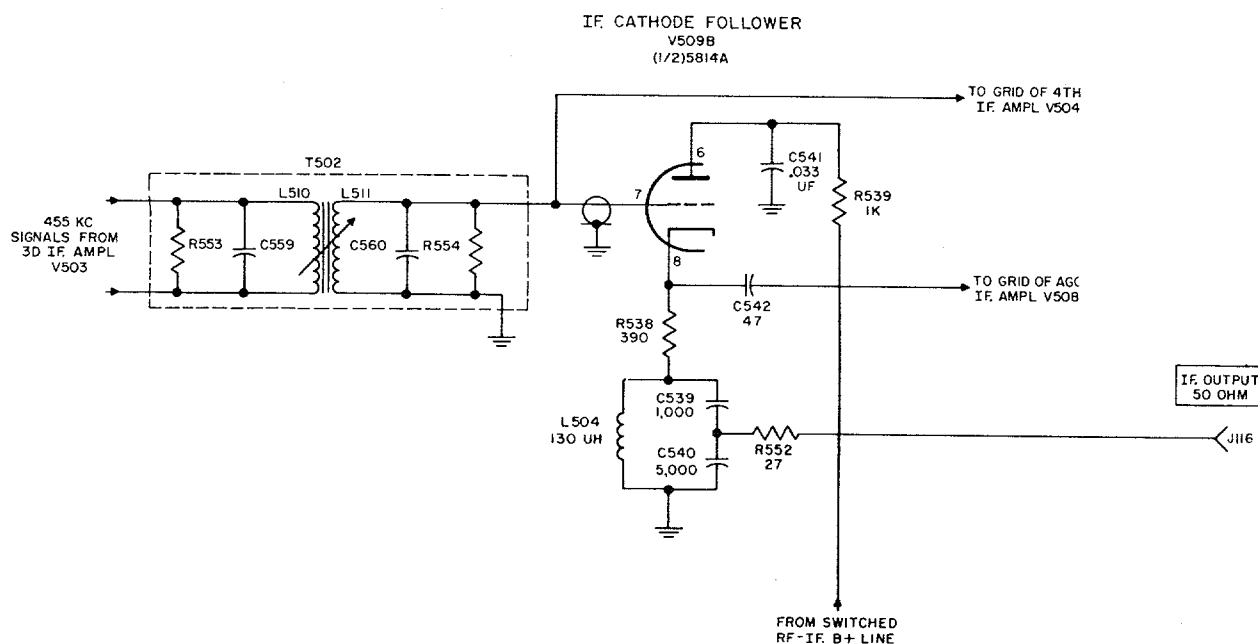

Figure 20. If. cathode follower V509B, simplified schematic diagram.
back from detector V506B through V504. The secondary winding of T502 also feeds 455-kc signals to if. cathode follower V509B, which supplies 50-ohm, 455-kc signals to external circuits (para 20, fig. 20). The output signal developed across the L513 of T503 is connected to detector V506B. Capacitor C530 bypasses if. signals to ground. In the if. subchassis with MOD numbers 1 and higher on Order No. 363-Phila-54, serial numbers 600 and higher on Order No. 08719-Phila-55, and all if. subchassis on Order No. 14-Phila-56, transformers T501, T502, and T503 are stagger-tuned to increase bandwidth. When one of these transformers is replaced in *any* subchassis, stagger-tuning procedures should be followed (para 72).
20. If. Cathode Follower V509B (fig. 20)